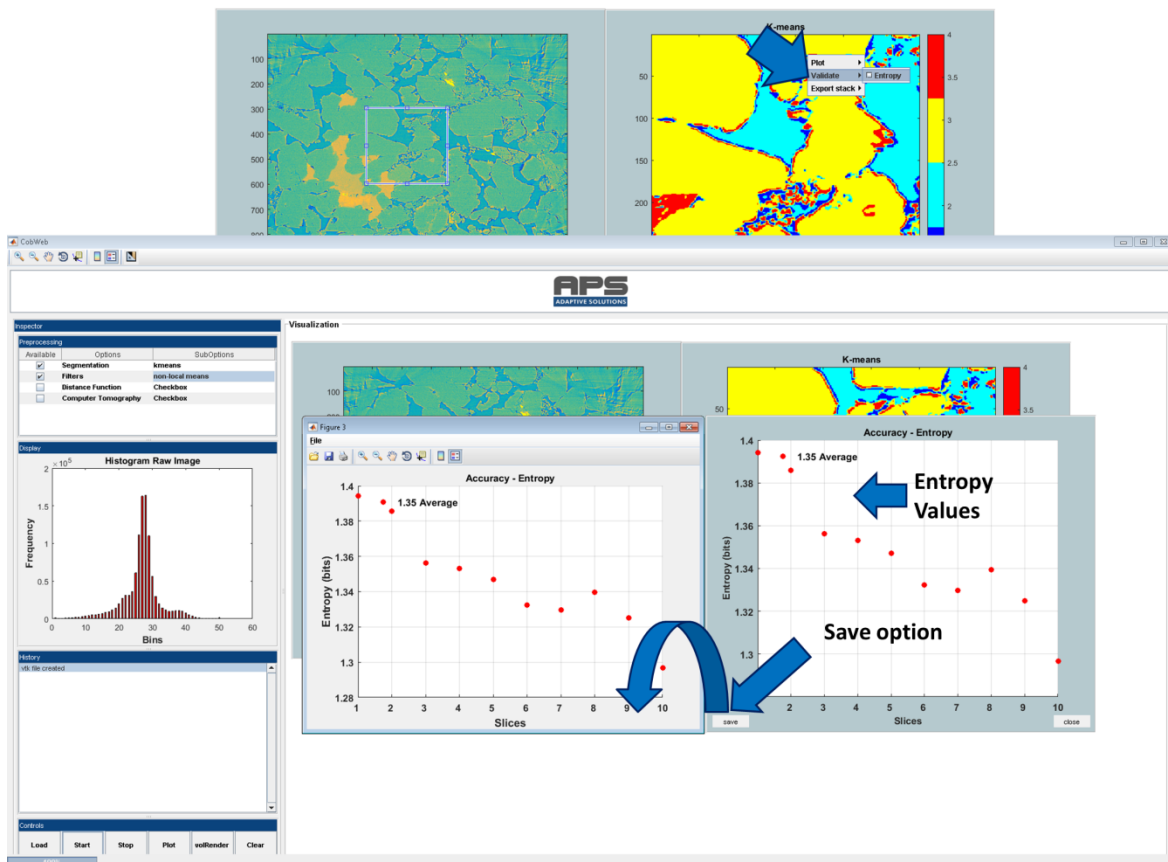

Figure 40: Plotting entropy
- Figure 40 (top panel) shows plotting Entropy. Right click on the segmented image and select validation → Entropy
- Figure 40 (bottom panel) shows how the plotted Entropy can be saved in the desired image format by clicking the save option.